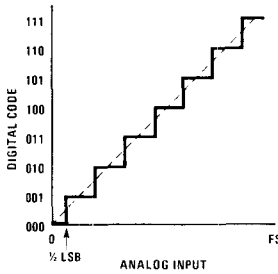
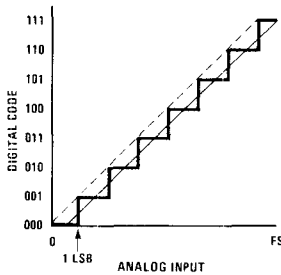

FIGURE 2. ADC Transfer Curve,  $\frac{1}{2}$  LSB Offset at Zero
FIGURE 3. ADC Transfer Curve, No Offset
**Quantizing Error** is the maximum deviation from a straight line transfer function of a perfect ADC. As, by its very nature, an ADC quantizes the analog input into a finite number of output codes, only an infinite resolution ADC would exhibit zero quantizing error. A perfect ADC, suitably offset  $\frac{1}{2}$  LSB at zero scale as shown in figure 2, exhibits only  $\pm\frac{1}{2}$  LSB maximum output error. If not offset, the error will be  $\pm 1$  LSB as shown in figure 3. For example, a perfect 12-bit ADC will show a  $\pm\frac{1}{2}$  LSB error of  $\pm 0.0122\%$  while the quantizing error of an 8-bit ADC is  $\pm\frac{1}{2}$  part in  $2^8$  or  $\pm 0.195\%$  of full scale. Quantizing error is not strictly applicable to a DAC; the equivalent effect is more properly a resolution error.